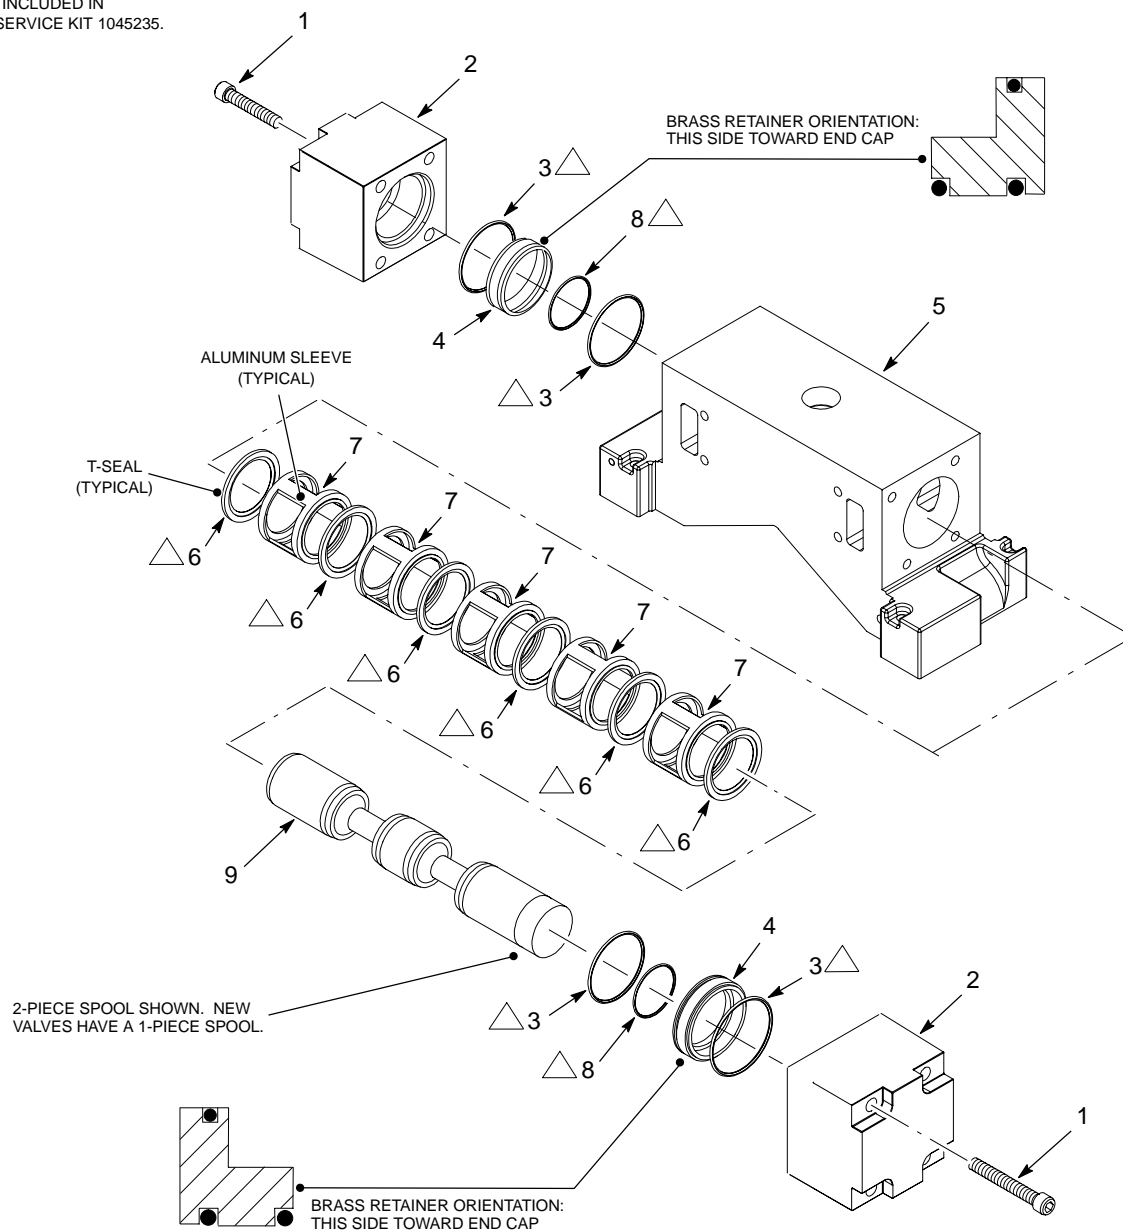

Figure 2 Air Valve Assembly
1. See Figure 2. Lubricate the new O-rings (3, 8), T-seals (6), and spool (9) with TFE grease.
2. Install the T-seals (6) and aluminum sleeves (7) into the valve body (5) as shown.
3. Install the O-rings (3) onto the brass retainers (4).
4. Install the O-rings (8) into the brass retainers (4). Install the brass retainers into the air valve body (5).
5. Install the spool (9) into the air valve body (5).
6. Install the air caps (2) onto the air valve (5) using the screws (1). Tighten the screws securely.